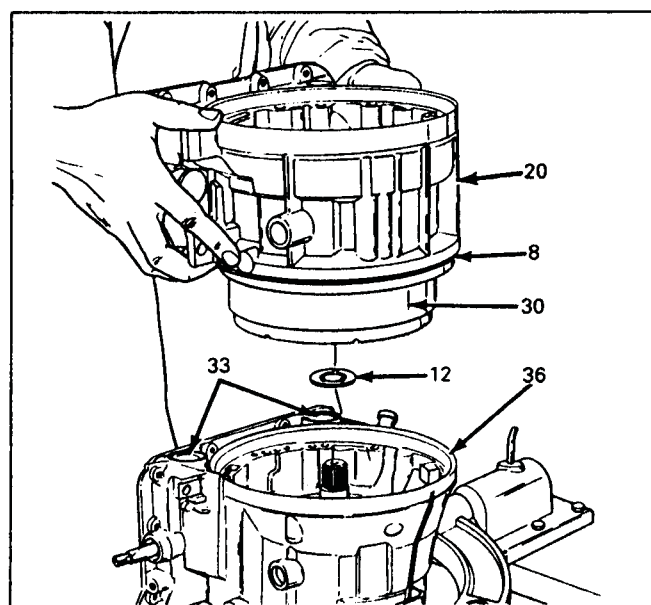

Figure 42
9. Grasp the adapter case and remove by lifting it from the main case, as shown in Figure 42.
11. Two "O" ring seals (33) will remain in the main case, and one "O" ring (8) will remain on the adapter case, as shown in Figure 42.
12. A selective thrust washer may stick to the center support (Figure 42).